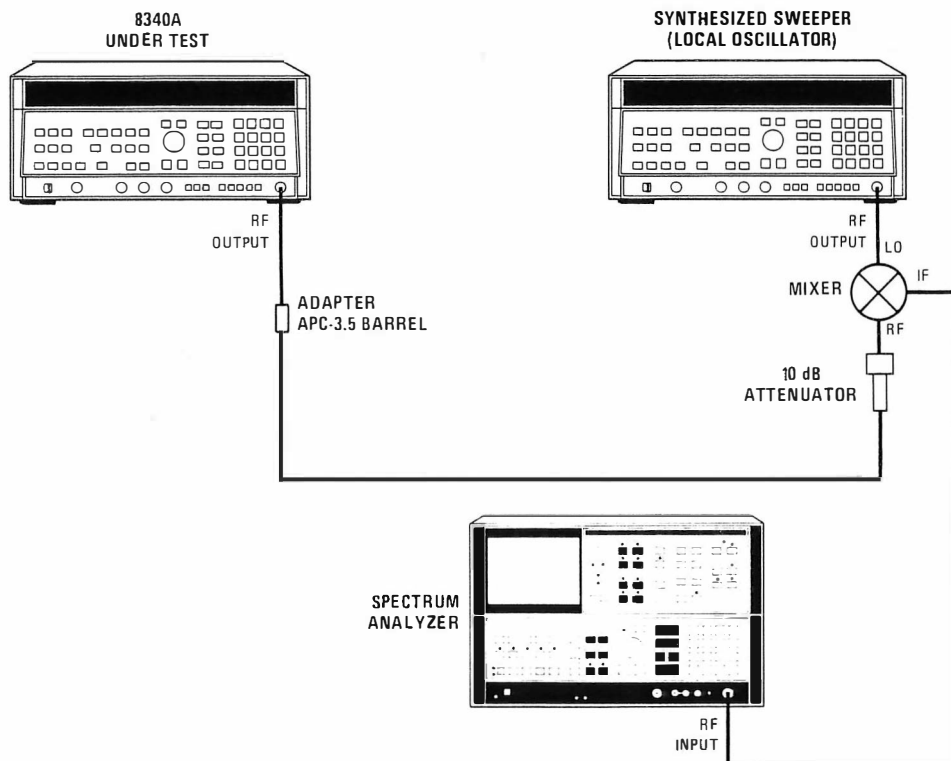

Figure 5-41. Unleveled Squegging Test Setup.
- Connect equipment as shown in Figure 5-41. Connect the mixer at the Local Oscillator (LO) HP 8340A RF output connector to obtain maximum mixer LO input level. Allow at least 30 minutes warm up time.